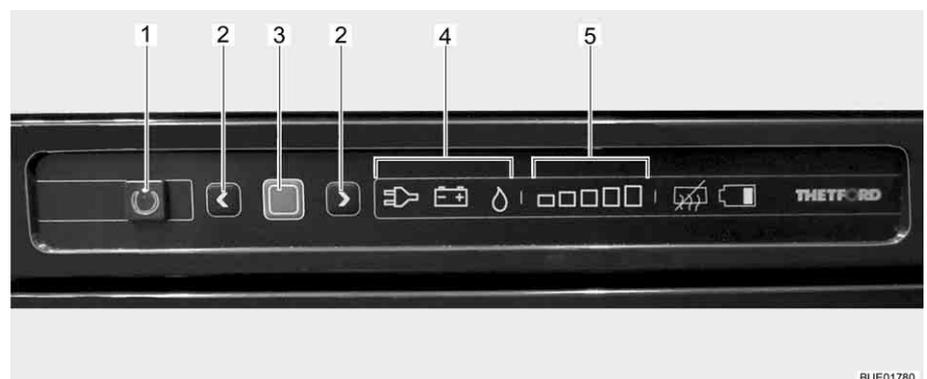

Fig. 167 Operating controls for the refrigerator
The current operating mode is indicated by an illuminated symbol (Fig. 167,4) on the operating unit.
When turned on the refrigerator automatically selects the thermostat position selected last. This position can be adjusted manually by using the arrow keys (Fig. 167,2). The illuminated bars of the cooling level indicator (Fig. 167,5) show the selected thermostat position. The refrigerating temperature for the three types of energy is set with the arrow keys. It takes a few hours till the refrigerator reaches its normal operating temperature. When changing over the operating mode the thermostat setting will be maintained. The refrigerating temperature is retained regardless of the type of power being used.
- Press and hold the On/Off button (Fig. 167,1) for 1 second. Button (Fig. 167,1) lights up green. To save energy, after approximately 10 seconds the display is dimmed.
- Press confirmation button (Fig. 167,3). The current setting of the operating is displayed.
- If the operating mode gas is not set: To change the setting, press and hold the confirmation button (Fig. 167,3) for approximately 2 seconds.
- Using the arrow keys (Fig. 167,2) select the operating mode gas. Gas supply is open. Ignition will take place automatically. A ticking sound can be heard until ignition has been completed successfully.
- Press and hold the confirmation button (Fig. 167,3) for about 2 seconds.
- Press confirmation button (Fig. 167,3) again. The current cooling level is shown by the illuminated bars (Fig. 167,5).
- To change the setting, press the arrow keys (Fig. 167,2) until the desired setting is displayed.
- Press and hold the On/Off button (Fig. 167,1) for about 2 seconds. All lights go out. Refrigerator is switched off.
- If 230 V operating mode is not set: To change the setting, press and hold the confirmation button (Fig. 167,3) for approximately 2 seconds.
- Using the arrow keys (Fig. 167,2) select the 230 V operating mode.
- If the 12 V operating mode is not set: To change the setting, press and hold the confirmation button (Fig. 167,3) for approximately 2 seconds.
- Using the arrow keys (Fig. 167,2) select the 12 V operating mode.